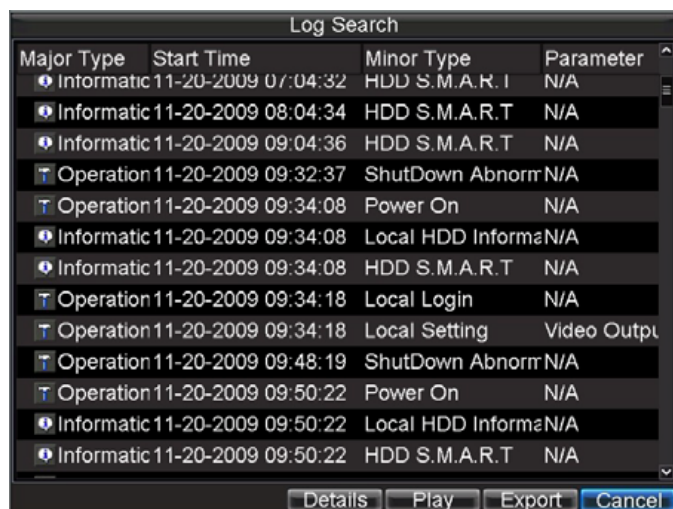

Figure 14.15. Log Search Results
- 3) Click the *Search* button to start search. If logs matching the search conditions are found, it will be displayed in a list of search results as shown in Figure 14.15.